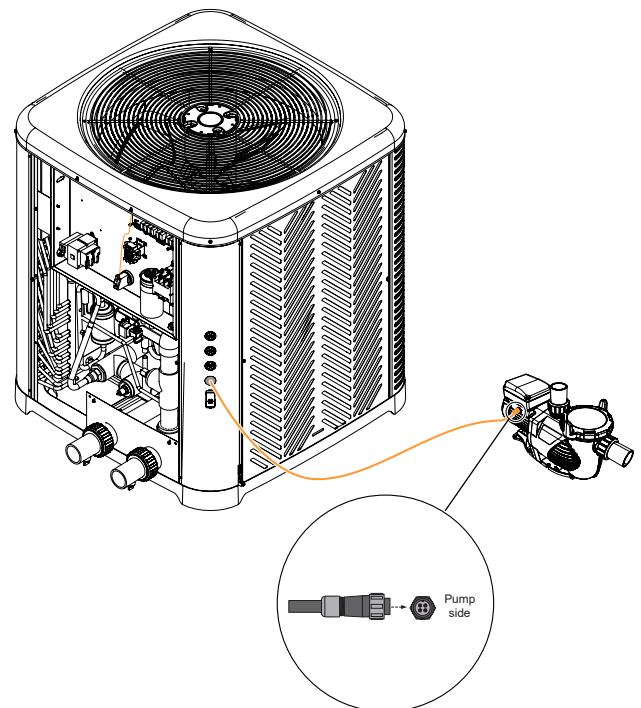

Figure 141. Keyed Circular Connector
2. Connect the keyed circular connector of the pump harness to the pump. See Figure 141.